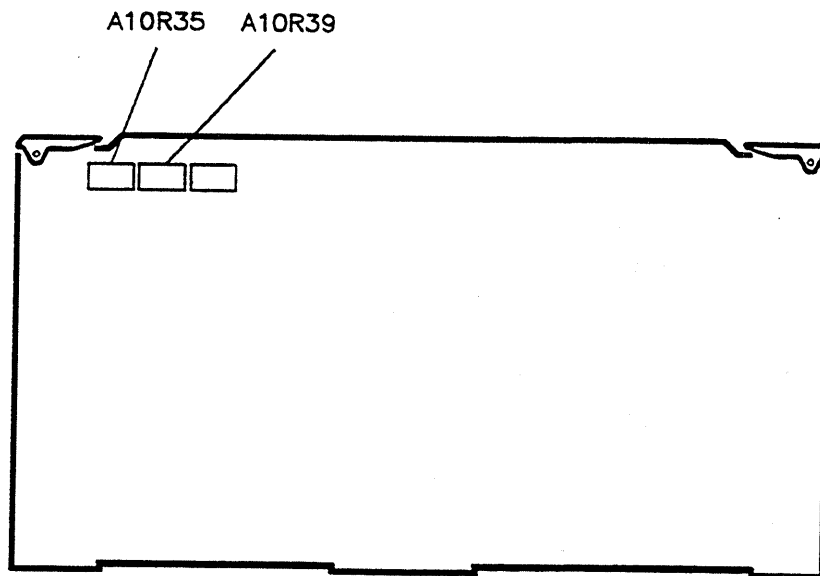

Figure 3-29. A10R35 and A10R39 Locations
15. Adjust A10R35, EXP AM CAL, for a -10 dB power meter reading. See Figure 3-29 for the location of A10R35.
See Figure 3-29 for the location of A10R39.